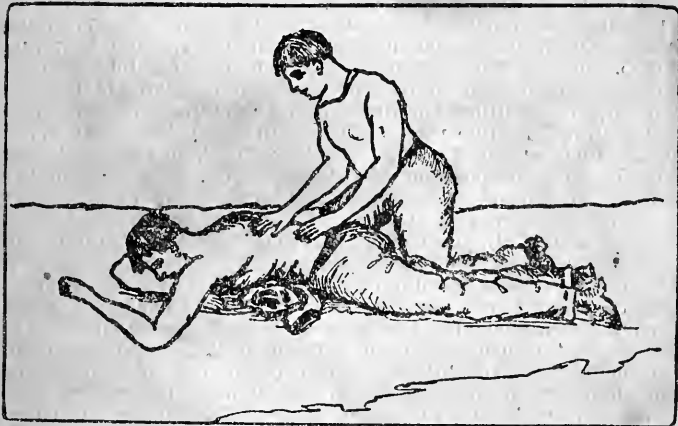

FIG. 1.—Expelling water from body.
**RULE II. TO EXPEL WATER FROM THE STOMACH AND CHEST** (see Fig. 1).—Separate the jaws and keep them apart by plac-